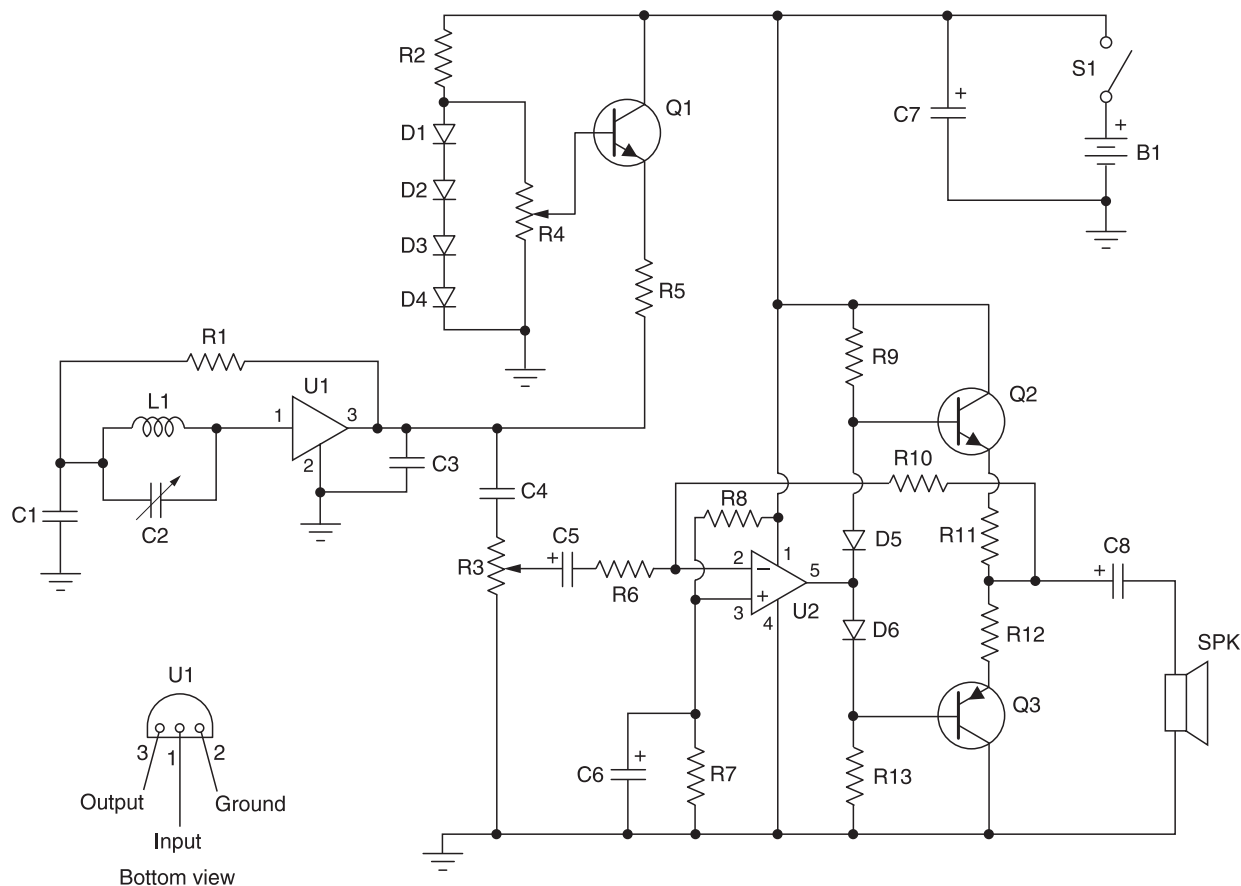

Figure 5-5 TRF AM receiver broadcast band receiver
The TRF AM radio project was designed around the popular MK484 TRF integrated circuit module, shown in Figure 5-5. This receiver covers the medium wave band or (AM) radio band from approximately 540 to 1700 kHz. The TRF front end consists of two components, the ferrite aerial coil and the tuning capacitor and the MK484 TRF IC. The important word is tuned, since this AM radio is called a TRF, or tuned RF radio. All the AM signals reaching the radio are very weak. Only that signal which matches the TRF